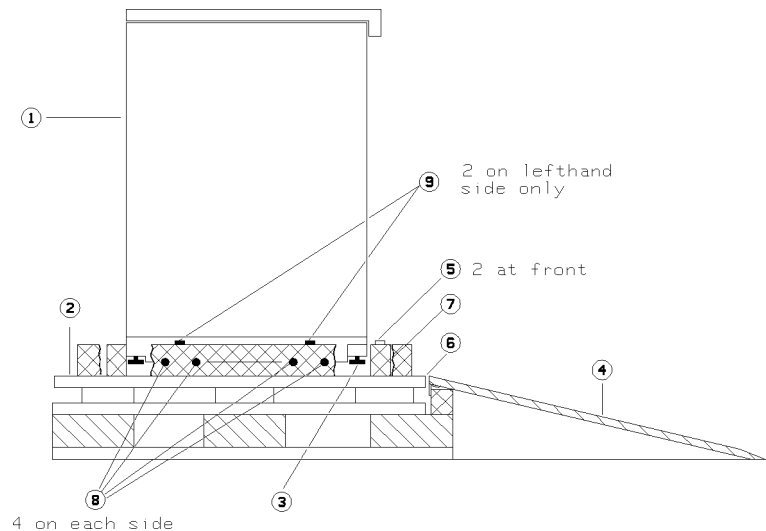

Figure 2-1. Position of Pallet Ramp.
To position your standardframe(s) in the final location follow the next procedure and refer to Figure 2-1.
1. Using a fork-lift truck, move the system mainframe (1) on its pallet (2) close to its final location.
2. Place the pallet ramp (4) as shown in Figure 2-1, ensuring that it is securely located in the locking groove (6) of the pallet.